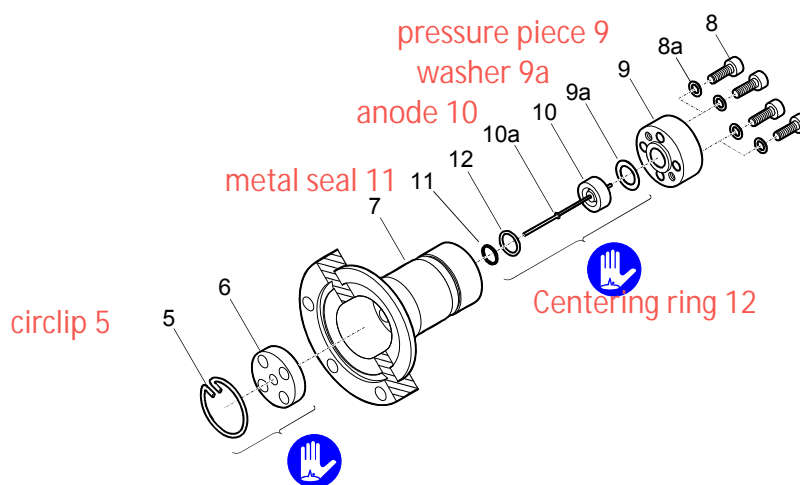

Figure 3c
Insert the new metal seal (11) with the centering ring (12) centered into the measuring chamber. The sealing surfaces, seal and ceramic part must be clean (→ Figure 3c).